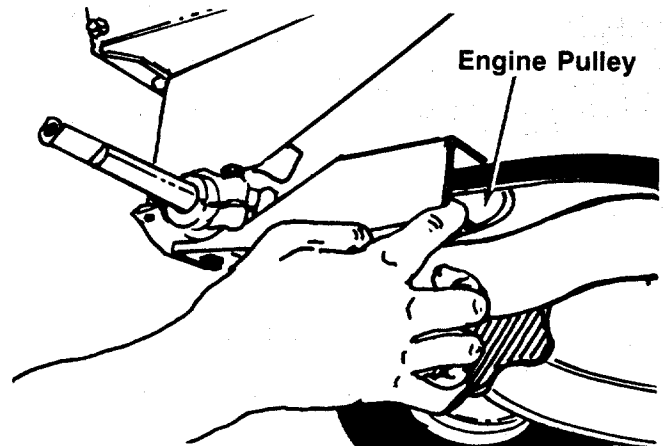

FIGURE 2.
5. Pivot the lower outside belt guard out and away from the engine pulley. See figure 2.